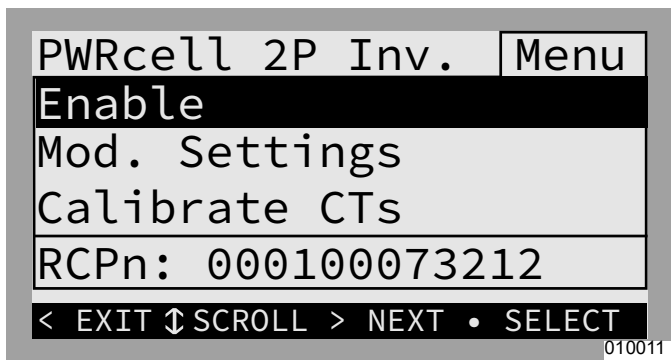

Figure 7-8. Enabling Inverter (2 of 3)
8. See Figure 7-8. Press the center button to access the inverter device main menu.